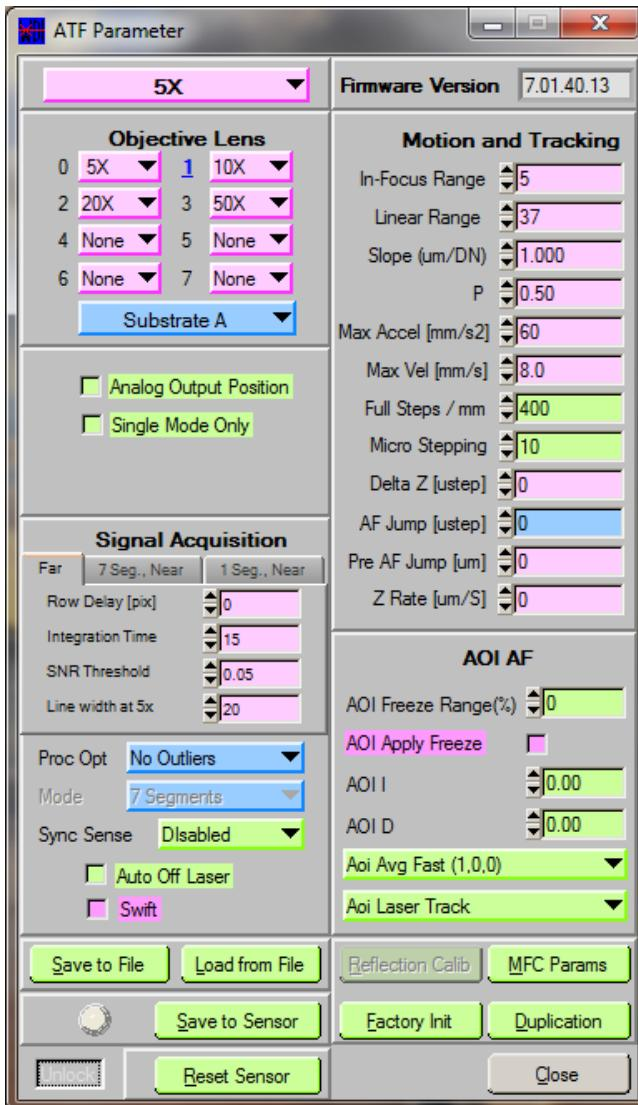

Figure 3-25 ATF6 Parameters available with ATF6_Test
The **ATF6_Test** software (described in more details in 0) provides means of accessing most of user parameters [FIGURE 3-25] provides mapping between “ATF6 Parameter” dialog and registers referred to in 7.5.4.2.
- Select the appropriate objective at Parameter menu, see [Figure 3-25])